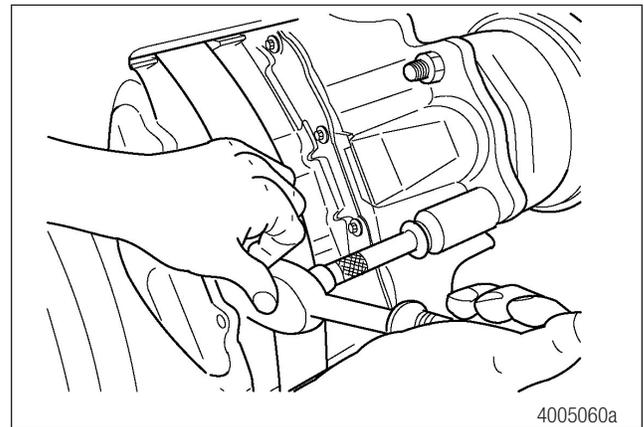

Fig. 8.1 Air Chamber Removal
STEP 3 - Remove the air chamber assembly from the brake caliper and inspect the air chamber. Refer to Section 10 for procedures. Figure 8.1.